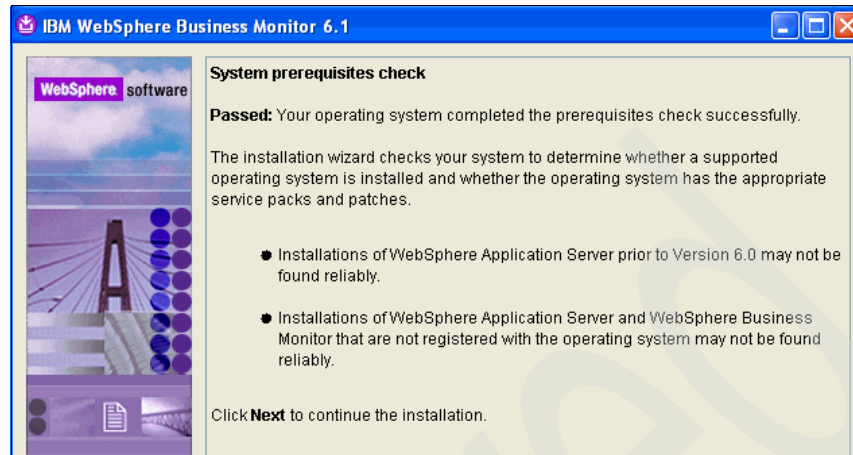

Figure 3-22 WebSphere Business Monitor installation: System prerequisites check
5. In the System prerequisites check panel (Figure 3-22), click **Next**.